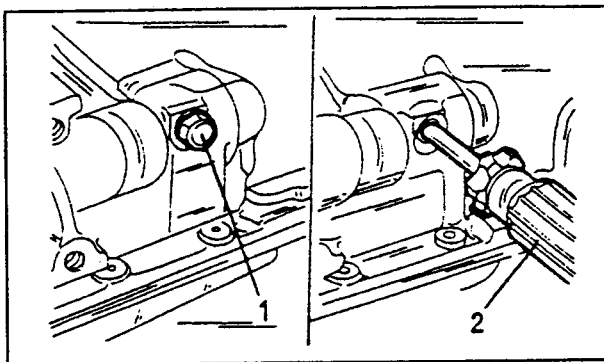

Fig. 1.9. — Details for the removal of the L.H. balance shaft. Remove the plug (1) and insert a screwdriver (2) into the bore.
- Remove the oil pump drive gear. Before removing the nut, take out the plug at the bottom of the L.H. side of the cylinder block and insert a screwdriver as shown in Fig. 1.9 to retain the L.H. balance shaft in position. The screwdriver shaft should have a diameter of 8 mm (0.3 in.) and a length of 60 mm (2.5 in.).
- Insert the screwdriver through the hole shown in Fig. 1.9 to counterhold the balance shaft (if not still in position) and remove the driven wheel of the oil pump.